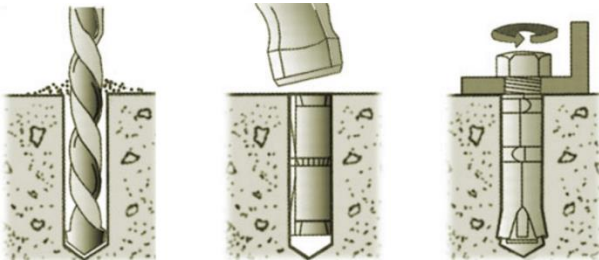
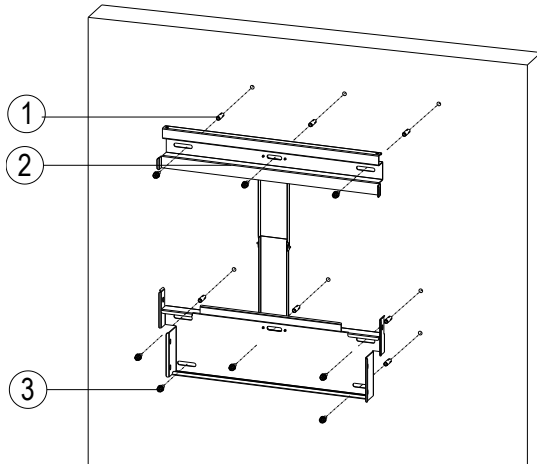

Figure 3-7 Drill holes, set Anchors, and tighten Assembly Bolts
Figure 3-8 Secure the Mounting Bracket
- (b) Concrete Wall Mount: Drill holes at the marked positions with a 0.4in. (10mm) masonry bit and insert **M8 Expansion Anchors** into the holes (expansion anchors not provided); Fasten the **Mounting Bracket** with the **M8x25 Assembling Bolts** (not provided). Figure 3-7 and Figure 3-8. Tools Required: Electric drill (Φ 10mm/0.4in. masonry bit), No. 13 wrench